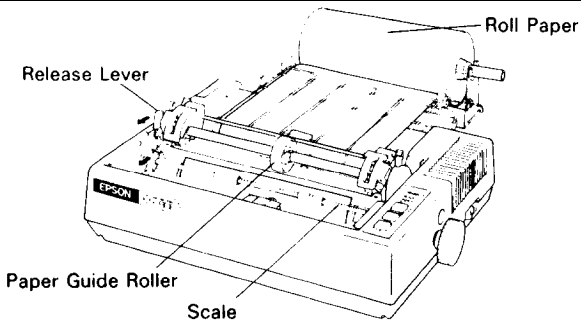

Fig. 36 Loading of Roll Paper (1)
(See Fig. 36.)
- STEP 3. Pull the scale toward the front of the Printer to detach the scale from the platen. (See Fig. 36.)
- STEP 4. Confirm that the paper guide roller is at the center of the sprocket shaft. If not, set it at the center of the shaft. (See Fig. 36.)
- STEP 5. Insert the end of the roll paper between the frame and the plastic roller of the separator. (See Fig. 36.)